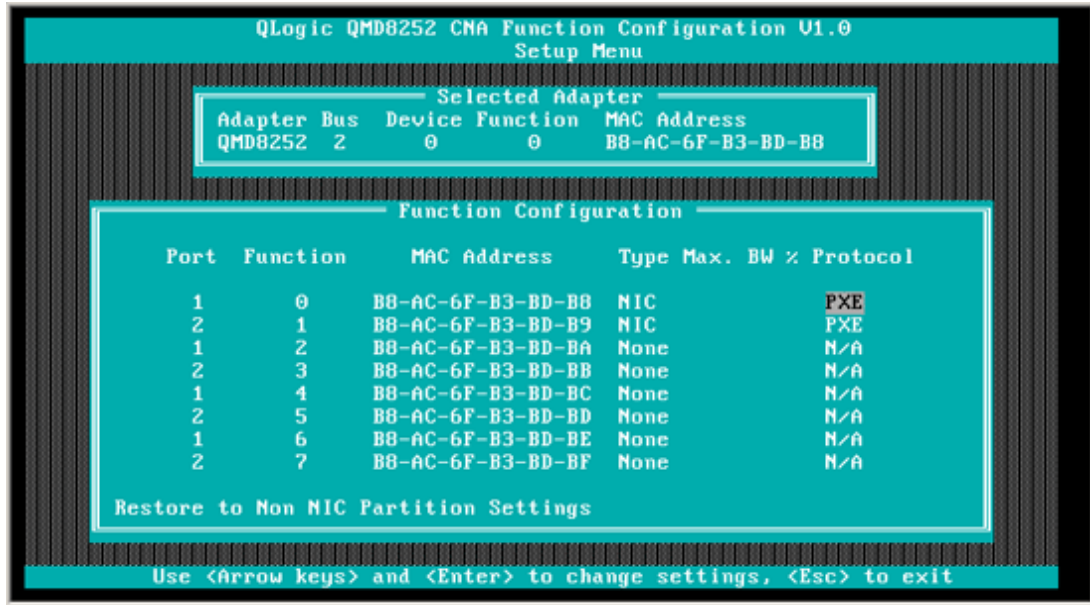

Figure 2-2. QLogic 8200 CNA Function Configuration
7. On the CNA Function Configuration main window, ensure that **Protocol** is set to **PXE** (Figure 2-2).